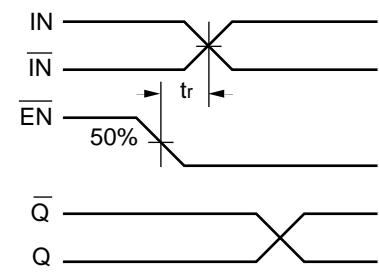

Figure 3. Release Time
- The release time is the minimum time that \bar{EN} must be de-asserted prior to the next IN/ \bar{IN} transition to ensure an output response that meets the specified IN to Q propagation delay and output transition times (see Figure 3).